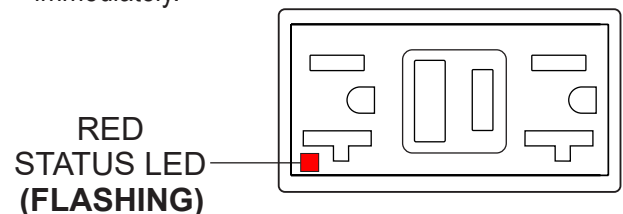

Figure 95. GFCI Receptacle (Red Flashing LED)
6. If the status LED (Figure 95) is **flashing (RED)**, **DO NOT** use the GFCI receptacle and replace it immediately.